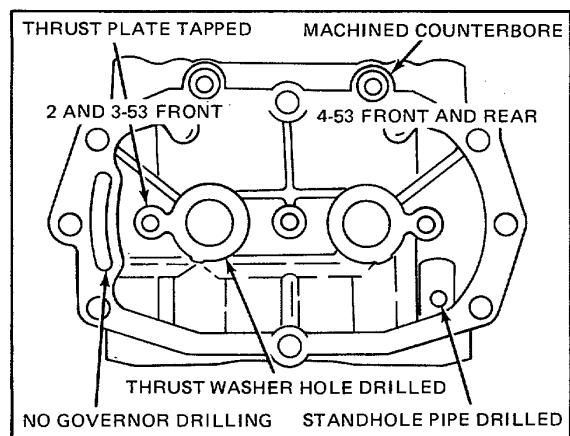

Figure 4. End Plate Machining Differences
1. Knowing the machining differences, such as thrust washer drilling, governor hole drilling, counterbores drilled, etc (Fig. 4).